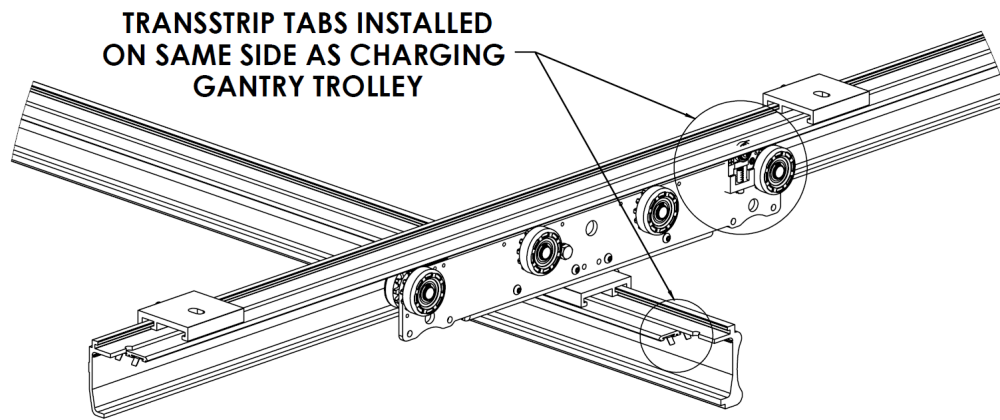

Figure 37: **Traversing Track Mounted to Parallel Track**
9. Hang the traversing track by inserting it into the track brackets on the gantry (Figure 37)
- Make sure the male TransStrip tabs on the traversing track are facing the charging parallel track as shown in Figure 37.